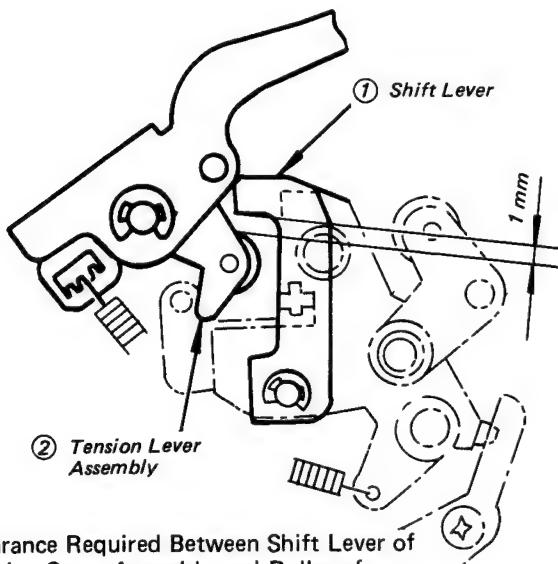

Fig. 5-70 Clearance Required Between Shift Lever of Tension Servo Assembly and Roller of Tension Lever Assembly
6. Further, make certain that the clearance between the shift lever ① of the tension servo assembly and the roller of the tension lever assembly ② is around 1 mm (see Fig. 5-70).
## 25-3. Adjusting stroke of the Cue/Review Solenoid (Figs. 5-70, 5-80)